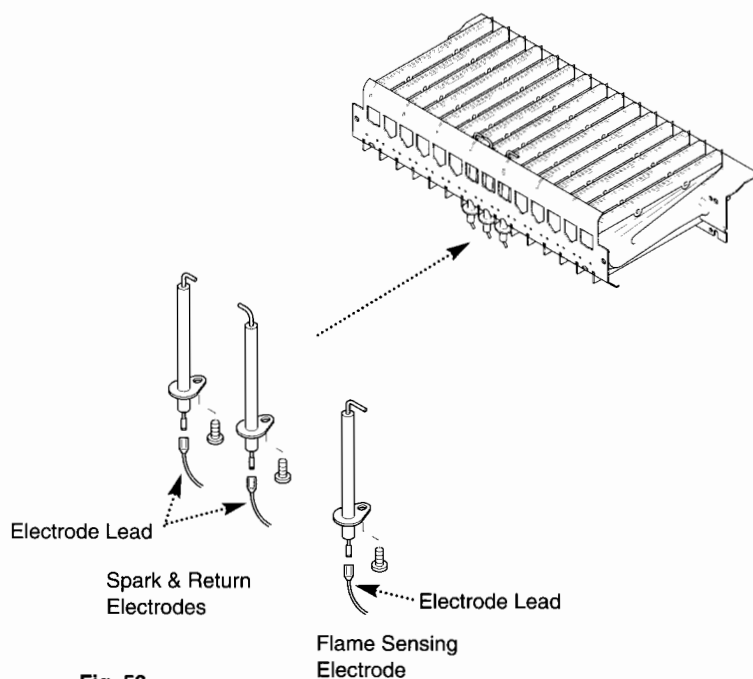

Fig. 53
1. Disconnect the spark, return and flame sensing electrode leads from the electrodes whilst noting their positions (Fig. 53).
1. Disconnect the flame sensing electrode lead (black sheath) from the electrode (Fig. 53).
4. Remove the screw securing the right hand electrode and withdraw it through the burner (Fig. 53).
1. Disconnect the spark and return electrode leads (white sheath) from the electrodes (Fig. 53).